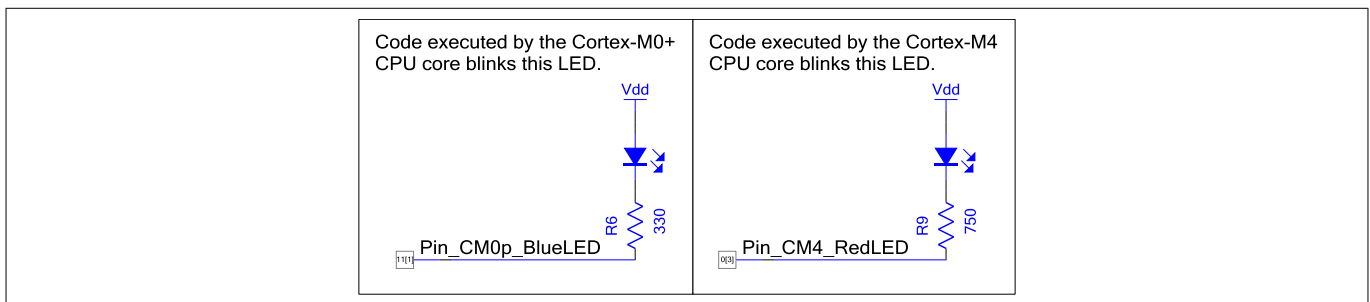

Figure 7 PSoC™ Creator project schematic for dual CPUs controlling separate pin components
- **Dedicate a resource to one CPU.** Include code to use the resource only in the firmware for the desired CPU. Also, if you are using PSoC™ Creator, a good practice is to indicate on the project schematic the CPU that “owns” the resource, as Figure 7 shows